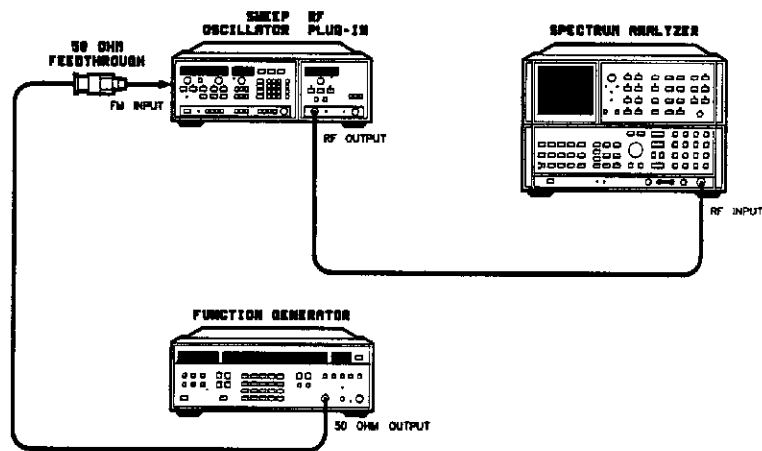

Figure 4-9. External Frequency Modulation Test Setup
2. Connect the equipment as shown in Figure 4-9, but do NOT connect the function generator to the FM input yet. Turn all instruments on and allow 1 hour warm up.
Connect the sinewave output as shown in Figure 4-9.
12. On the function generator, connect the output as shown in Figure 4-9.